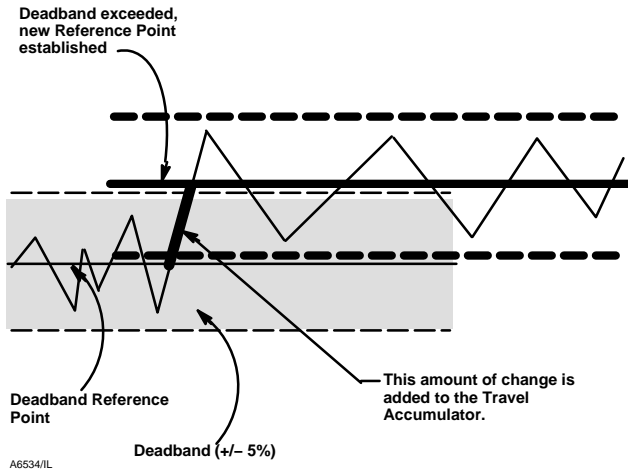

Figure 4-4. Travel Accumulator Deadband (set at 10%)
Travel Accumulator Deadband is the area around the travel reference point, in percent (%) of ranged travel, that was established at the last increment of the accumulator. This area must be exceeded before a change in travel can be accumulated. See figure 4-4.
- **Travel Accumulator**—Records the total change in travel, in percent (%) of ranged travel, since the accumulator was last cleared. The value of the Travel Accumulator increments when the magnitude of the change exceeds the Travel Accumulator Deadband. See figure 4-4. You can reset the Travel Accumulator by configuring it to zero.